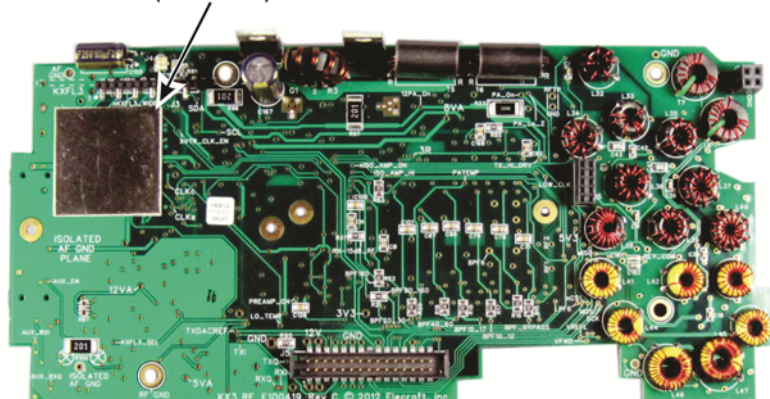

Figure 34. Installing the RF Board Shield.
- ☐ Taking ESD precautions remove the RF board from its protective envelope and mount the shield in the square outline on the pc board. Peel the protective back covering off of the shield and align the shield carefully with the outline on the RF board as shown in Figure 34. Press on the shield to ensure it is well adhered to the RF board.